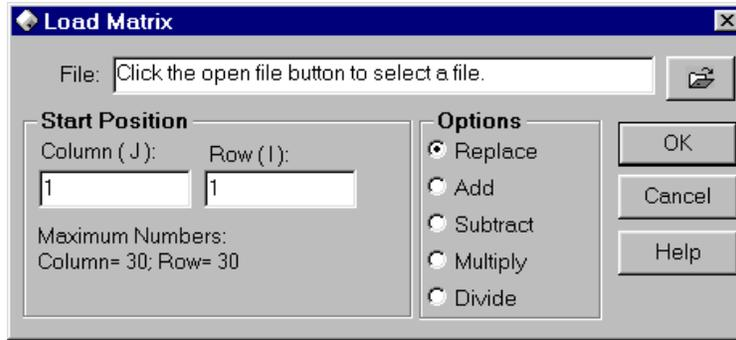

Fig. 1.11. The **Load Matrix** dialog box
3. Click the **Load...** button. The **Load Matrix** dialog box appears (Fig. 1.11).